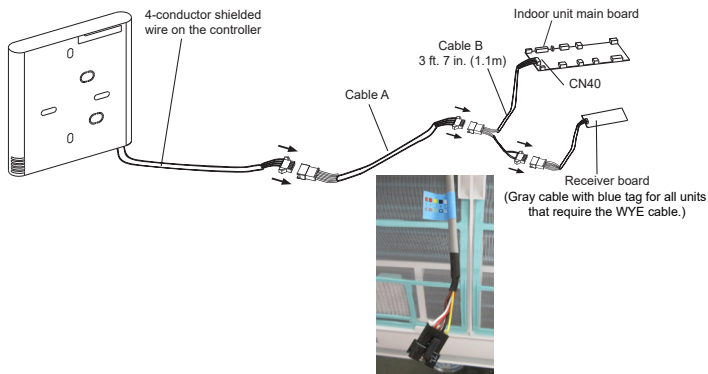

Figure 2. Wiring Connections MMDA/B, MCFA/B, M22A and M33A/B/C
1. Use the wiring connections illustrations (Figures 2 and 6) to connect the controller to the indoor unit. **NOTE** - Connection details for wall-mounted units differ from the other indoor unit types.